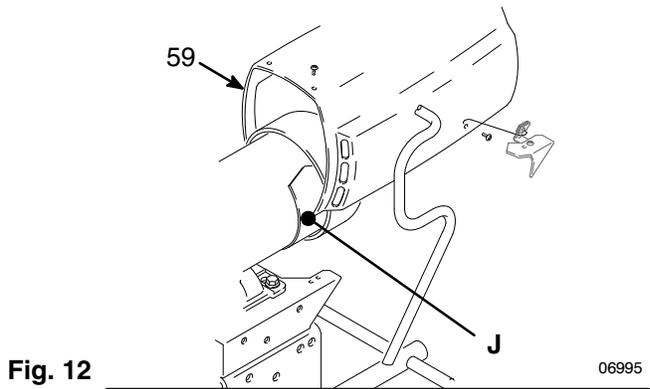

Fig. 12
2. Remove the motor shield (59). Remove the inspection covers (J) and gaskets on each side of the motor. See Fig. 12.